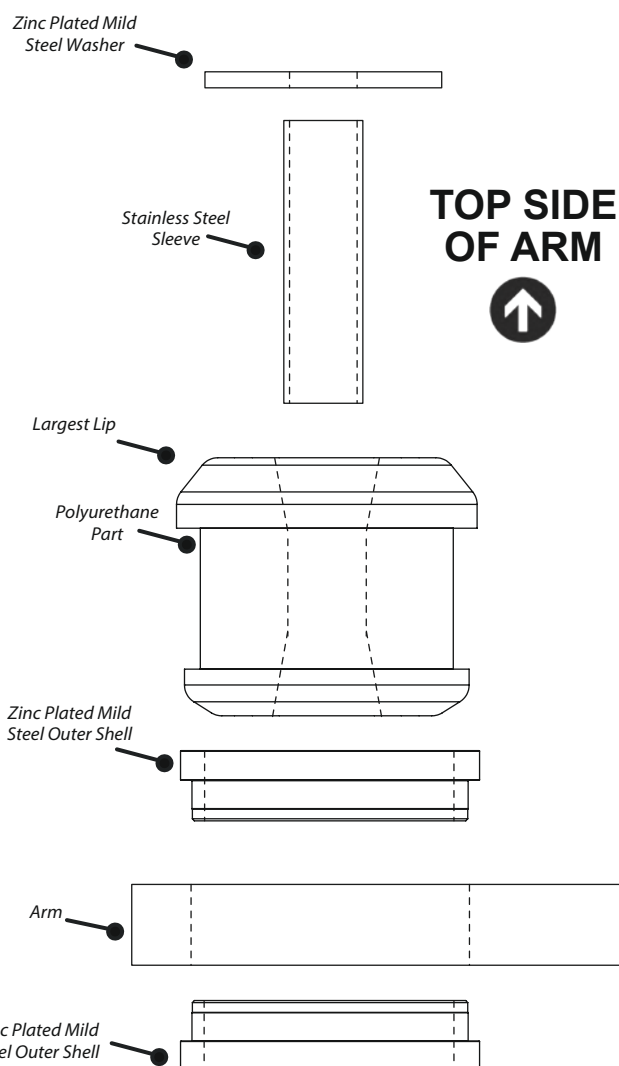

Figure 1
3. Press in the two zinc plated mild steel outer shells into the bore of the arm on either side so the top lip sits on top of the arm, as shown in Figure 1.
4. Push the polyurethane bush into the tapered bore of the outer shells with the largest lip of the bush sitting on the top side of the arm, as shown in Figure 1.